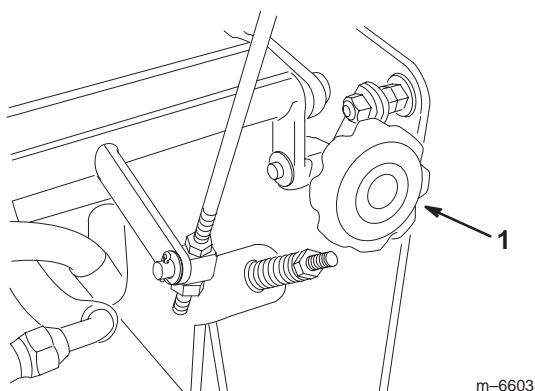

Figure 53
4. If the unit tracks to one side or the other, turn the quick track knob. Turn the knob right to steer right and turn the knob left to steer left (Fig. 53).